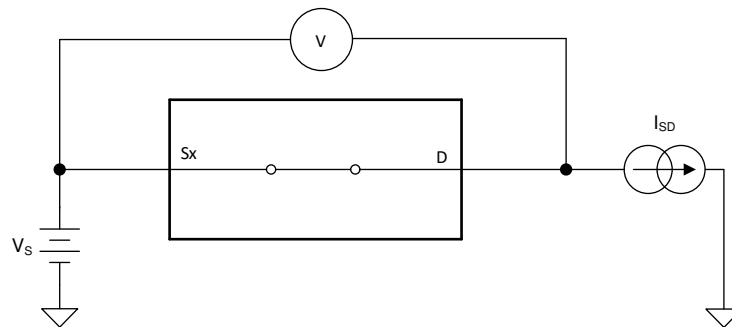

Figure 7-1. On-Resistance Measurement Setup
The on-resistance of a device is the ohmic resistance between the source (Sx) and drain (D) pins of the device. The on-resistance varies with input voltage and supply voltage. The symbol  $R_{ON}$  is used to denote on-resistance. Figure 7-1 shows the measurement setup used to measure  $R_{ON}$ . Voltage (V) and current ( $I_{SD}$ ) are measured using this setup, and  $R_{ON}$  is computed with  $R_{ON} = V / I_{SD}$ :